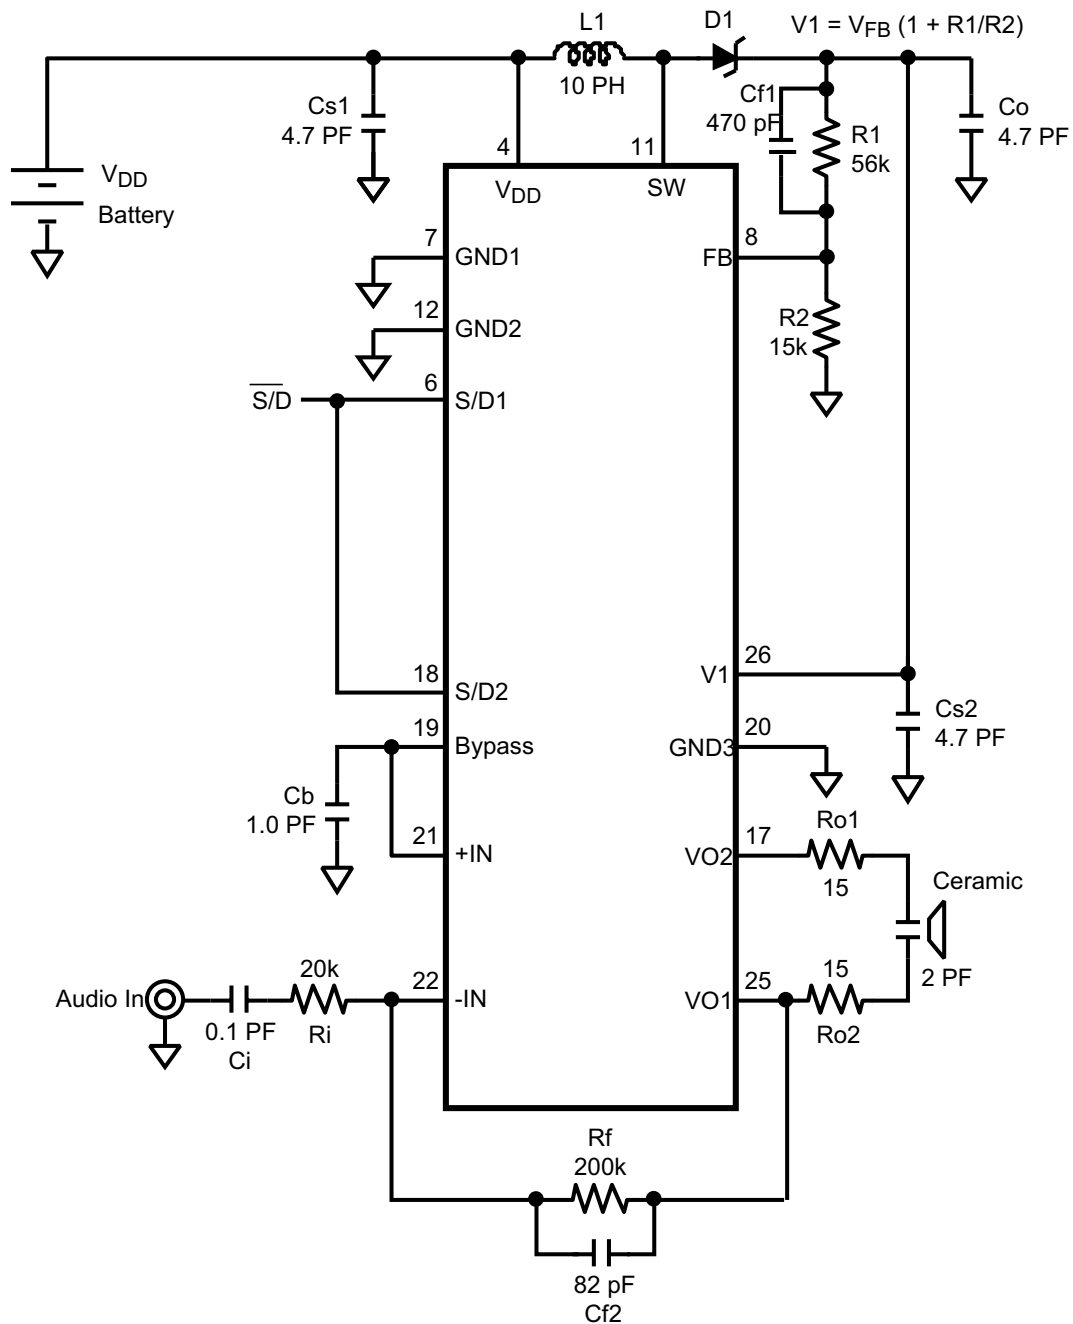

Figure 2. Typical Audio Amplifier Application Circuit
The following specifications apply for $V_{DD} = 4.2V$, $A_{V-BTL} = 26dB$, $Z_L = 2\mu F + 30\Omega$, $C_B = 1.0\mu F$, $R_1 = 56k\Omega$, $R_2 = 15k\Omega$ unless otherwise specified. Limits apply for $T_A = 25^\circ C$. See Figure 2.
- (1) All voltages are measured with respect to the GND pin, unless otherwise specified.
- (2) *Absolute Maximum Ratings* indicate limits beyond which damage to the device may occur. *Operating Ratings* indicate conditions for which the device is functional, but do not ensure specific performance limits. *Electrical Characteristics* state DC and AC electrical specifications under particular test conditions which ensure specific performance limits. This assumes that the device is within the Operating Ratings. Specifications are not ensured for parameters where no limit is given, however, the typical value is a good indication of device performance.
- (3) Typicals are measured at $25^\circ C$ and represent the parametric norm.
- (4) Limits are specified to Texas Instruments' AOQL (Average Outgoing Quality Level).
- (5) Datasheet min/max specification limits are specified by design, test, or statistical analysis.
- (6) Shutdown current is measured at an ambient temperature of $25^\circ C$. The Shutdown pin should be driven as close as possible to V_{in} for minimum shutdown current.
- (7) Shutdown current is measured with components R_1 and R_2 removed.
- (8) Feedback pin reference voltage is measured with the Audio Amplifier's V_1 (pin 26) floating and no addition load connected to the cathode of D_1 (see Figure 2).
- (3) Typical values are measured at $25^\circ C$ and represent the parametric norm.
- (7) Shutdown current is measured with components R1 and R2 removed.
- (8) Feedback pin reference voltage is measured with the Audio Amplifier's V1 (pin 26) floating and no addition load connected to the cathode of D1 (see Figure 2).